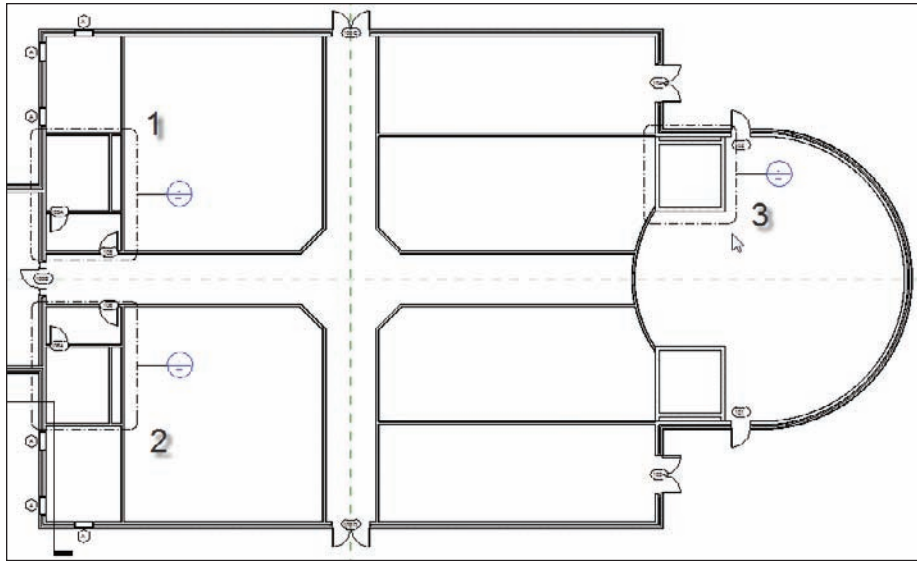

FIGURE 3.66 The plan showing the three typical callouts
13. Create one more callout around the elevator shaft in the east wing, as shown in Figure 3.66.